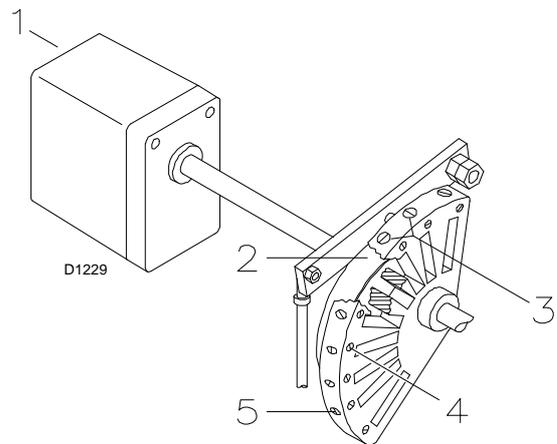

Fig. 29
- loosen the screws 4)(Fig. 29 at page 24) of the cam 2)(Fig. 29);
- **Adjustment of the air** is carried out by means of the screws 3)(Fig. 29 at page 24) of the variable profile cam 2)(Fig. 29), which control the air damper; screw down said screws to increase the air delivery and unscrew to decrease it.
Only after having set the minimum and maximum pressure, carry out an accurate setting of the combustion on different positions of modulation operating solely on the setting of the air delivery by means of the screws 3)(Fig. 29) of the cam.
Once the setting of the combustion is complete, lock the screws 4)(Fig. 29) and check ignition once again: noise emission at this stage must be identical to the following stage of operation.
Key (Fig. 29)
- During adjustment of the intermediate outputs it is advisable to adjust the air in certain positions so that the bearing which slides over the variable profile foil of the cam is found directly by the side of one of the screws 3)(Fig. 29); this is necessary in order that the adjustment carried out on a screw alters the contiguous adjustments as little as possible.